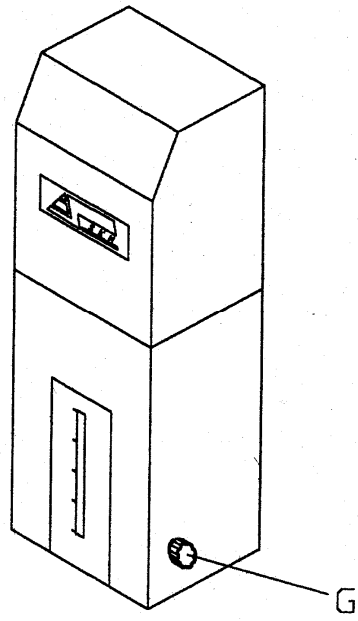

FIG. 4-2
5. CLOSE THE QUILL FLUSHING VALVE (TURN C.C.W.) (FIG. 4-2-G)